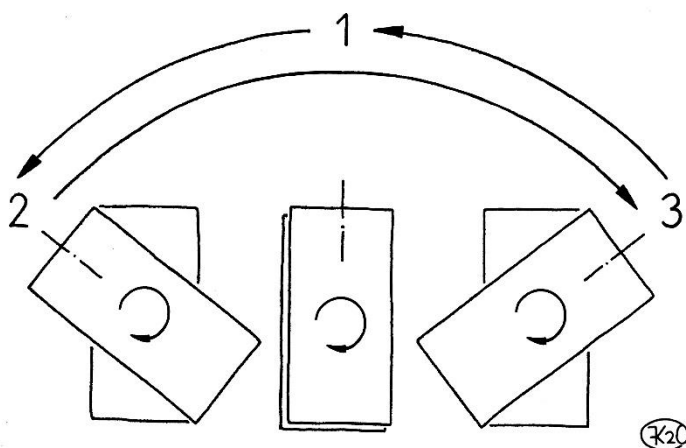

Fig 50: Lapping rectangular clinkers with rotation
This will happen now and then, but all it means is that the clinkers have to be lapped again. This is very easy and takes no time at all. For this job I use a finer grit (150) and I lap sticking to the normal cycle and lapping movement (with rotation) as depicted in **Fig. 50**. It is a matter of minutes before faultless flatness is restored to all three clinkers.
Fig. 50 shows what is meant. Using two hands (see **Fig. 51**) makes it easy to guide the stone safely and accurately enough while applying the necessary pressure.